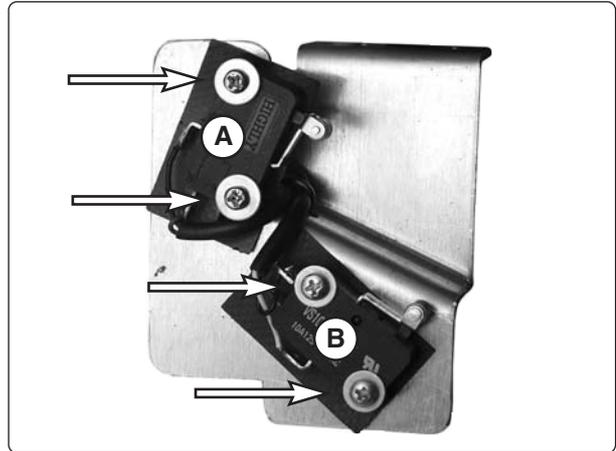

Fig. 64. The max speed sensor (A) and the leg rest sensor (B) are mounted on the plate using two screws each.
4. Remove the sensor by loosening its two retaining screws, see Fig. 64.